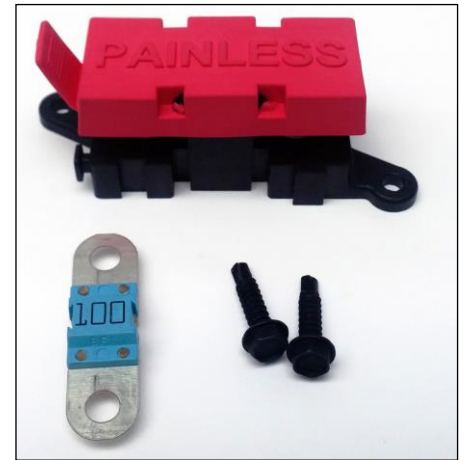

Fig. 110
- Find a suitable location to mount the supplied fuse holder using the two of the self-tapping screws provided. On the firewall, above the passenger side valve cover, is a nice place that has easy access (see Fig. 110). *The fuse has been upgraded since this photo was taken.*